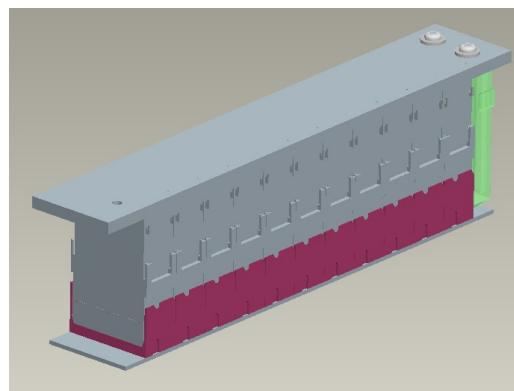

Figure 14: Typical Stacker Configuration
- 4.4.1 Mezzanine connector configurations are determined by the customers’ system application. Amphenol TCS recommends that for the optimal connector configuration design the connectors be grouped in increments of 4 or 6 wafers or one signal module. This matches 4 or 6 column groupings of the backplane modules. Guide modules (available only for 30 mm to 44 mm) are typically placed on the ends of the connector to protect the mezzanine connector from handling damage. See Figure 14 for the typical connector configuration.